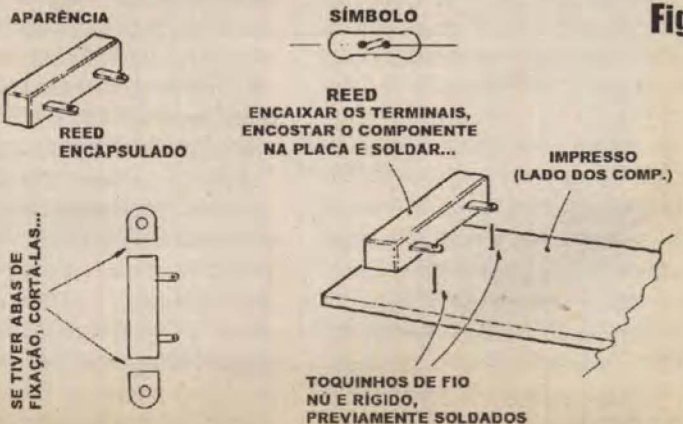

Fig. 5
- **FIG. 5 - OS SENSORES/ INTERRUPTORES MAGNÉTICOS (REEDs), DETALHES E PREPARA-**